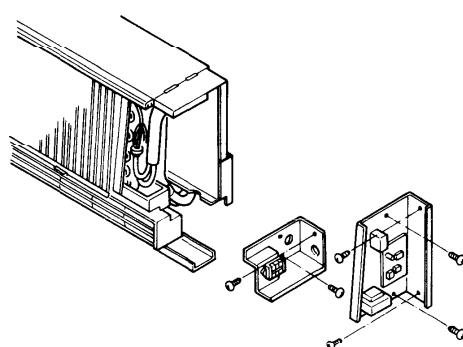

Fig. D-2
- 5) Remove or loosen the connector socket and lead wires in accordance with Figure D-2.
- 6) Unfasten the screws in accordance with Figure D-2. The electrical component box can be pulled out.